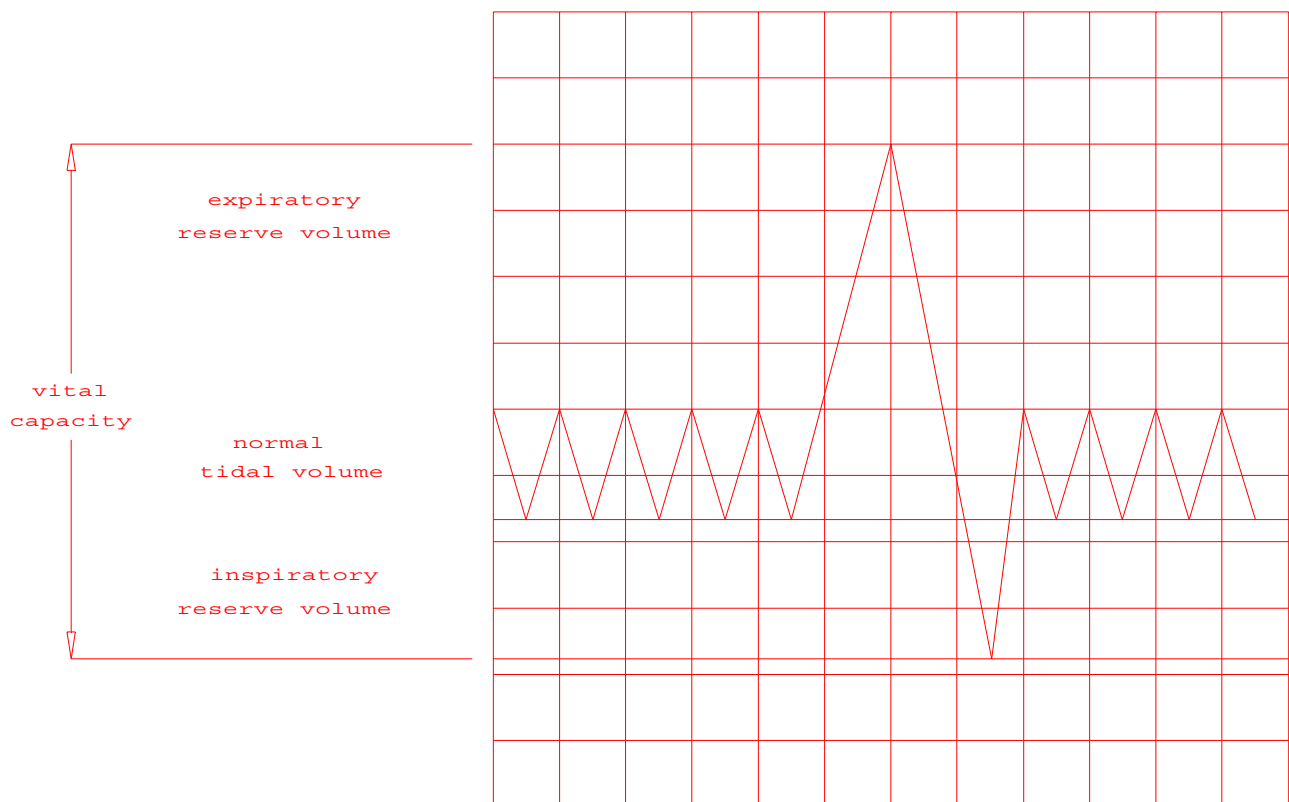

Fig 2.
1. **Normal tidal volume:** is given by the amplitude of the trace (see fig. 2).